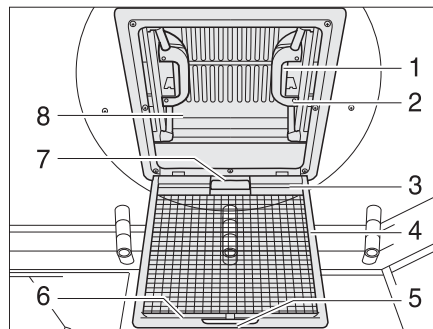

Fig. 82 Skylight with snap latch
- Pull on the handle (Fig. 82,5).
- Fold the insect screen (Fig. 82,4) downwards.
- Push the spring-loaded latch (Fig. 82,1) towards the inside of the skylight (Fig. 82,8). At the same time use the handle (Fig. 82,2) to press the skylight upwards.
- Swing the insect screen upwards (Fig. 82,4) until it latches in place.
- Using both handles (Fig. 82,2), pull down the skylight (Fig. 82,8) with force until the two snap latches (Fig. 82,1) lock into place.
- Pull the handle (Fig. 82,7) of the blind and hook the hook rail (Fig. 82,3) into the retainer (Fig. 82,6) on the insect screen.
- Release the hook rail (Fig. 82,3) from the retainer (Fig. 82,6) and feed the blind back slowly.